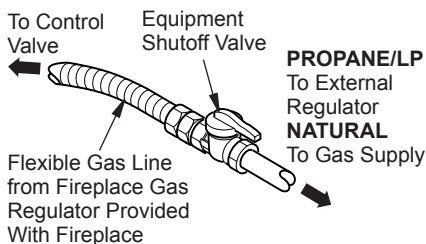

Figure 24 - Attaching Flexible Gas Line to Equipment Shutoff Valve
3. Apply pipe joint sealant lightly to male threads of gas connector attached to flexible gas line/equipment shutoff valve (see Figure 24).